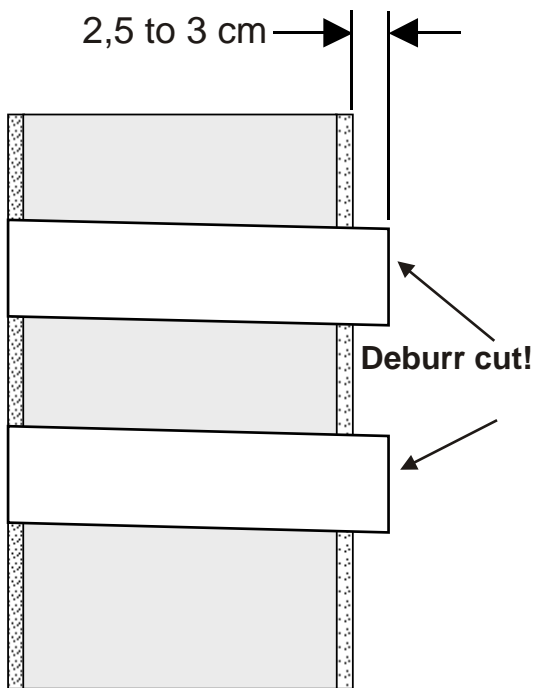

Figure 1
- 1** Cut the plastic pipes to length in the external area [Figure 1]. The pipes must protrude 25 to 30 mm from the external plaster!